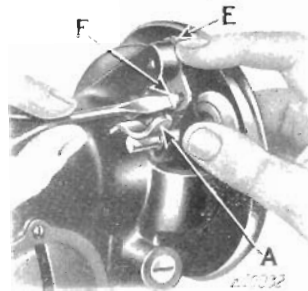

Fig. 51. ADJUSTMENT OF BOBBIN WINDER
drops down and holds it, then loosen the bobbin winder tension bracket screw (F). With the forefinger, push back the upper end of the bobbin winder tripping arm (E) as far as it will go, as shown in Fig. 51 and, at the same time, press the bobbin winder pulley against the hub of the balance wheel, then tighten the bracket screw (F).